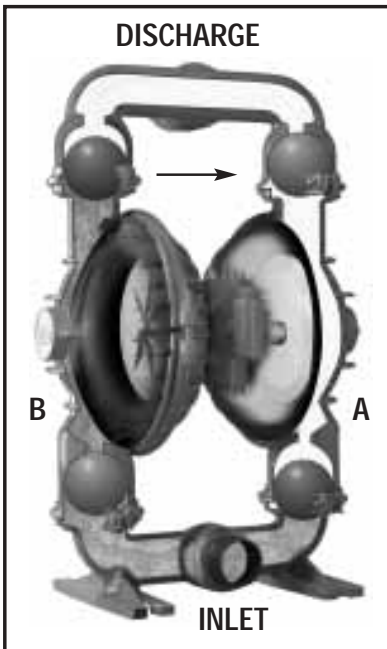

Figure 1 — Right Stroke
**FIGURE 1** The air distribution system directs the air supply to the right air chamber and therefore, the back side of diaphragm A. The compressed air moves diaphragm A away from the center block toward the liquid chamber. The opposite diaphragm (diaphragm B) is pulled inward by the shaft connected to the pressurized diaphragm (diaphragm A). Diaphragm B is now on its suction stroke; air behind the diaphragm has been forced out to atmosphere through the exhaust port of the pump. Diaphragm A is currently working against atmospheric pressure. The movement of diaphragm B toward the center block of the pump creates a vacuum within liquid chamber B. Atmospheric pressure forces fluid into the inlet manifold forcing the inlet valve ball off its seat. Liquid is now free to move past the inlet valve ball (lower left) and fill the liquid chamber.